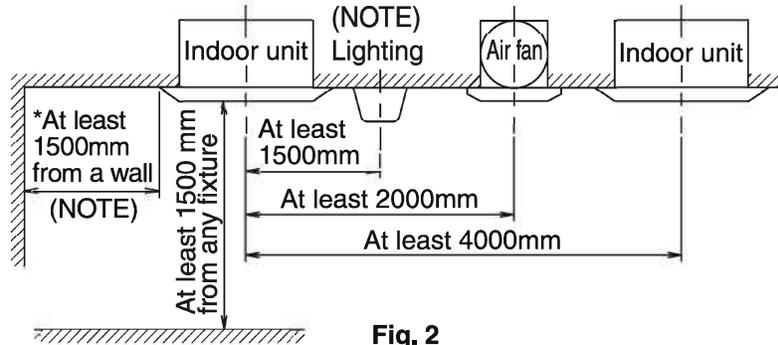

Fig. 2
- Any vents, light fixtures, or other appliances which may disturb the airflow might cause the top side to become dirty if located too nearby, so follow Fig. 2 when installing.
(2) Ceiling height